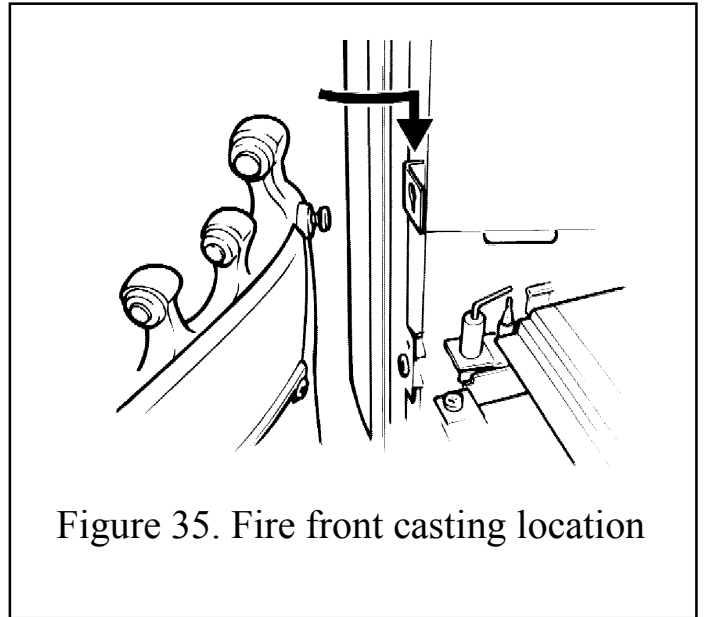

Figure 35. Fire front casting location
1. Fit the fire front casting to the front surround. Locate the two screw heads at the rear top corners of the casting through the keyhole slots at the inner sides of the surround. If the screw heads do not project enough or project too far, the screws can be adjusted. Lower the casting so that it rests on the hearth. See figure 35.